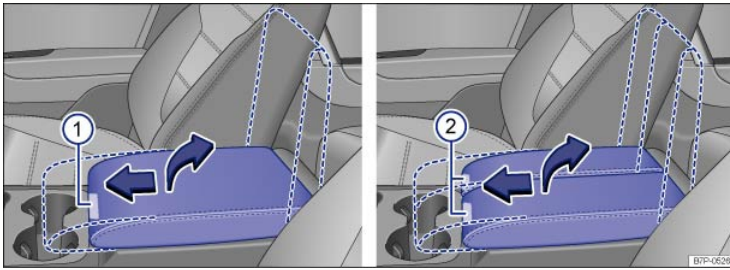

Fig. 117 In the front center armrest: Storage compartment.
To *slide* (if applicable), press ⇒ Fig. 117① or ⇒ Fig. 117② move the center armrest in the direction of the arrow ⇒ Fig. 117.
To *open*, press button ⇒ Fig. 117① or ⇒ Fig. 117② and lift the center armrest section up completely in the direction of the arrow ⇒ Fig. 46.